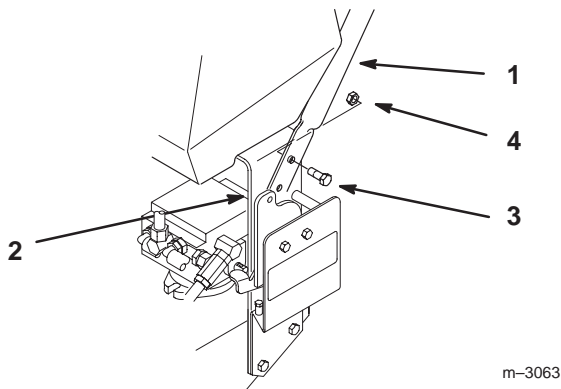

Figure 3
1. Align upper handle with mounting holes in rear frame (Fig. 3). Select high, medium or low position for lower mounting hole.
2. Secure each side with 2 flange bolts (3/8 x 1 in.) and 2 flange nuts (Fig. 3). Torque bolts to 25 ft.-lb. (34 N.m).